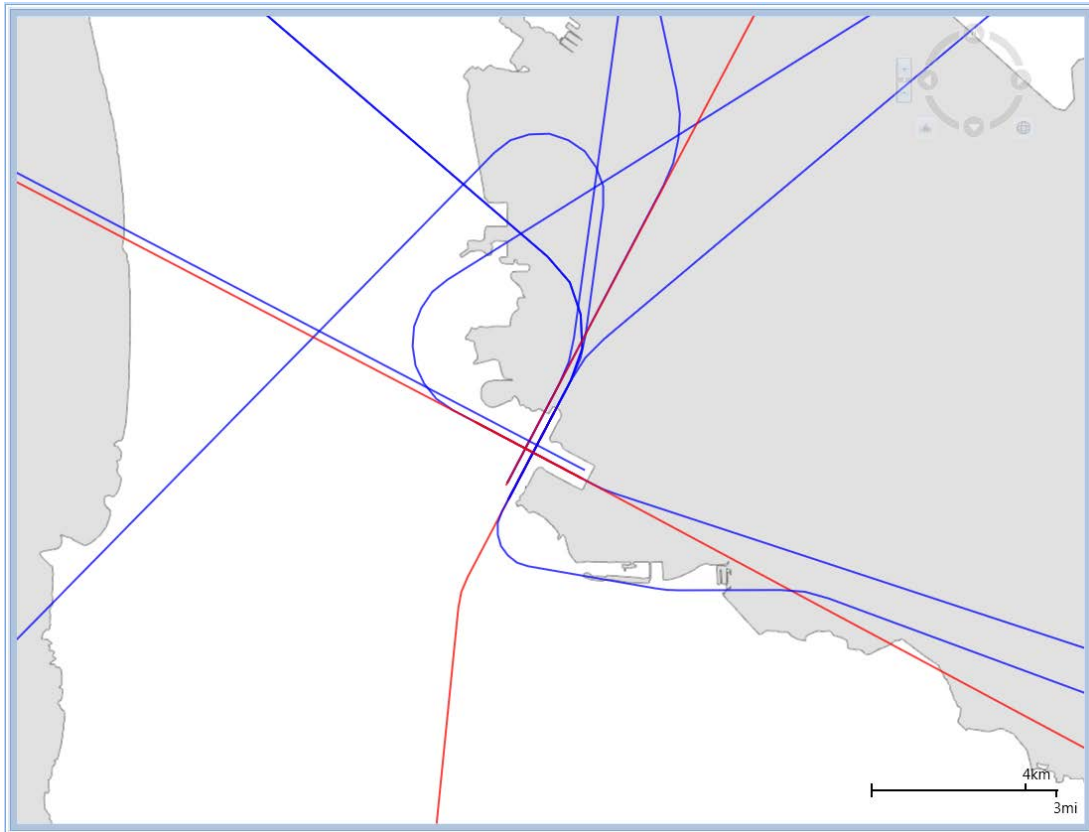

Figure 5-25 Sample Track Layer
3. The tracks layer is displayed on the map (Figure 5-25) and in the *Layers* manager.